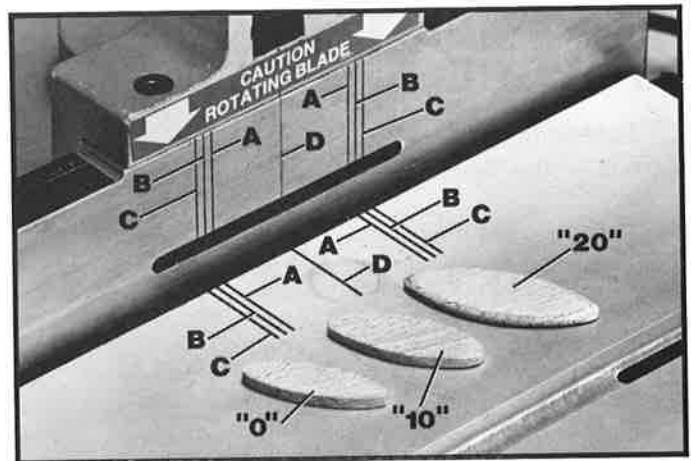

Fig. 27
The Delta Plate Joiner has the capability of cutting slots in wood to accommodate three biscuit sizes, 0, 10 and 20, as shown in Fig. 27.
The lines (A), (B) and (C) Fig. 27, on the fence and table, indicate the width of cut for each biscuit size:
- (A) - For size "0" biscuit
- (B) - For size "10" biscuit
- (C) - For size "20" biscuit
Line (D) Fig. 27, indicates the center line of the cut to be made for size "0", "10" and "20" biscuits.